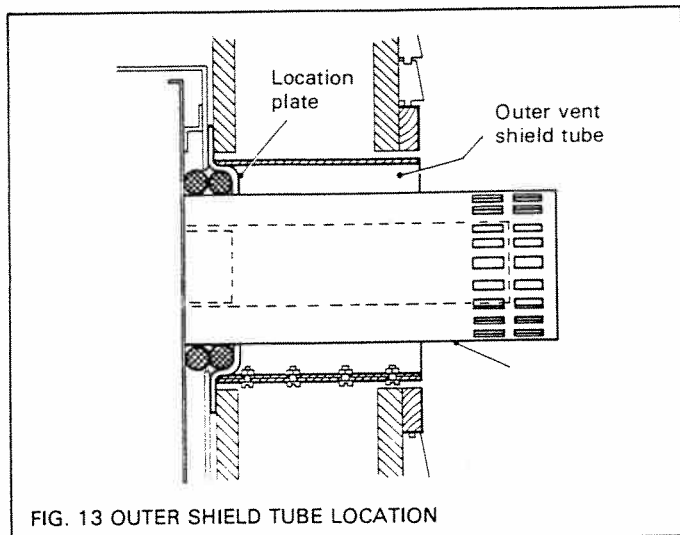

FIG. 13 OUTER SHIELD TUBE LOCATION
- (c) Insert the shield tube into the wall from the outside wall. Push the tube firmly in so that it locates fully over the dished ring of the vent location plate on the fireplace back. Trim the tube if necessary (see fig. 13).